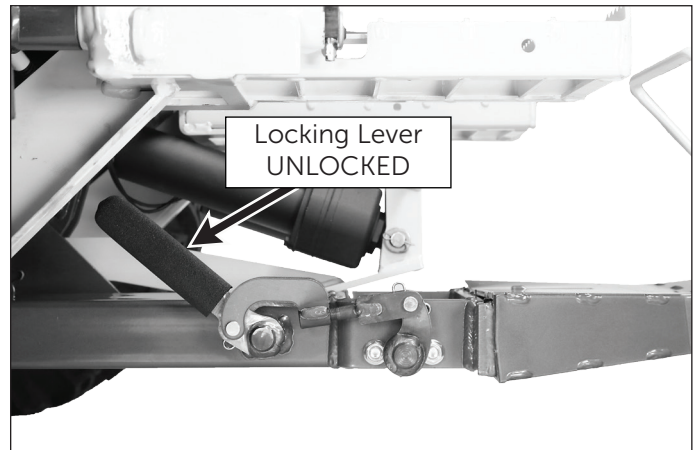

Figure 2.8: H19 Locking Lever in "UNLOCKED" Position
- **Removing:** Move the hitch lock lever forward to the **UNLOCKED** position as in Figure 2.8.